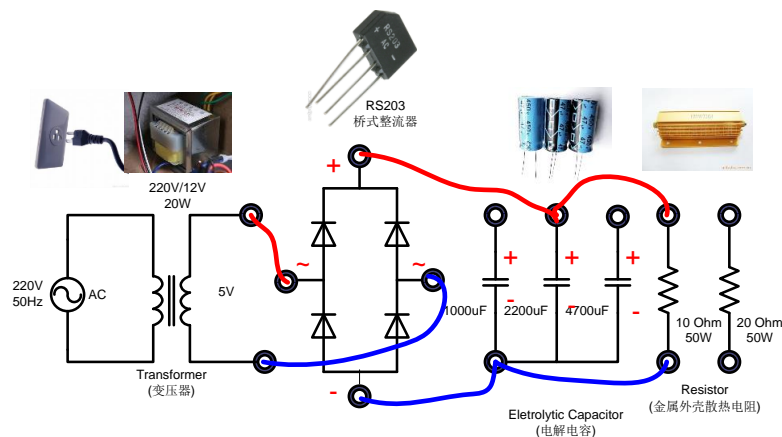

Figure 8: Full-wave rectifier with capacitive filter of 4700µF
- Configure the power supply unit for full-wave rectification as shown in Figure 8. Use the 2.2mF capacitor for smoothing.